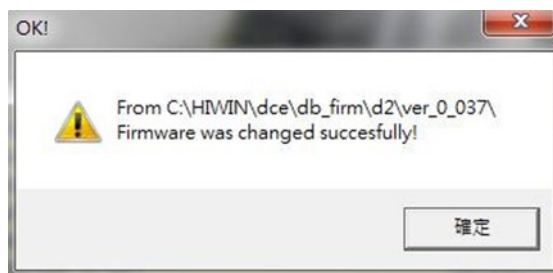

Figure12.1.5
- Step 4: After the firmware update is completed, the message window of figure 12.1.5 appears. Click the “Conform” button.